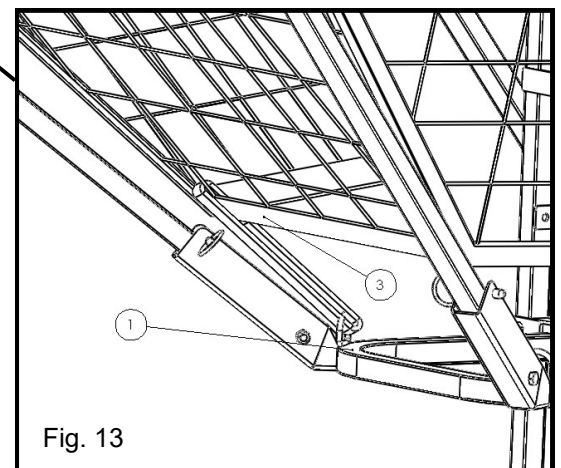

Fig. 13
C: Attach Velcro (28) on Net (3) to corresponding D ring on Horizontal frame (1). Repeat on other three D rings. See figure 13.
Release Velcro holding bottom of net to Horizontal frame. Pull down net so it is tight and loop Velcro back around net. (See figure 13 on page 7.)